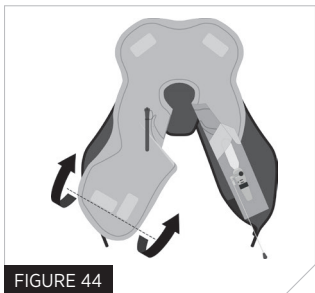

FIGURE 44
5. Fold bottom corner of the lobe (oral tube side) inflater up towards the centre of the bladder along fold line 5 (Fig 44).